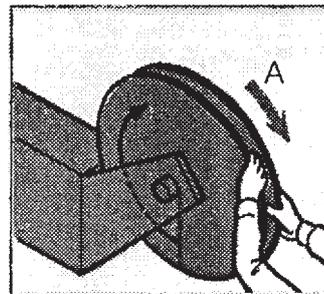

Fig. 24
3. Turn the reel to direction A 9 times to provide torque to the drum as shown in Fig. 24.